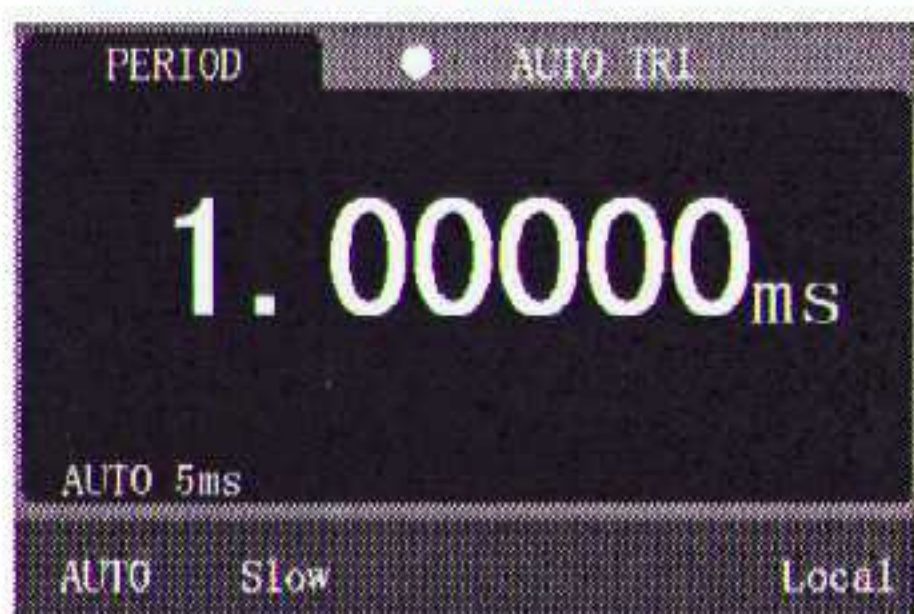

Figure 4-17 Measurement interface
1. In the frequency measurement function, press  again to select the period measurement function. The measurement interface is shown in Figure 4-17.